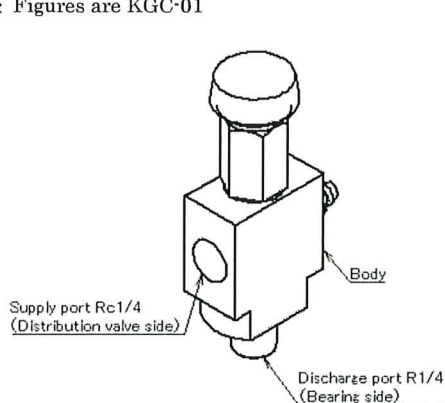

Figure. 1
- ① Connect the discharge port side of the grease checker body directly to the bearing or to a pipe, and connect the supply port side to the distribution valve outlet side pipe. (Figure 1)